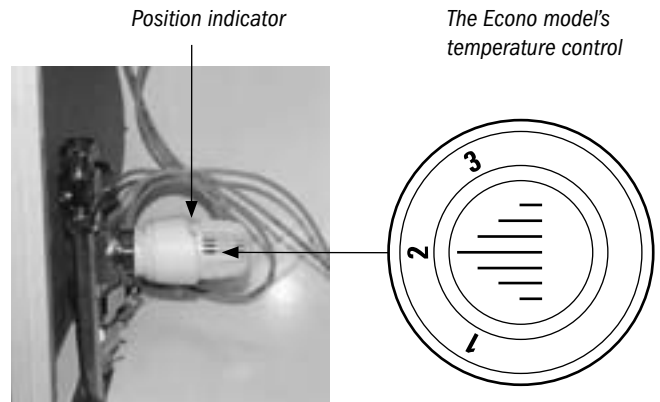

Figure 2.
2. If it is severely cold outdoors, the reheating setting can be adjusted by measuring the temperature by the supply air diffuser situated at the farthest end. We recommend setting the reheating function to approximately 17 °C. Reheating can be adjusted from the control panel if the unit has an electric reheater and in the Econo model by means of a manual control inside the unit (Figure 2).